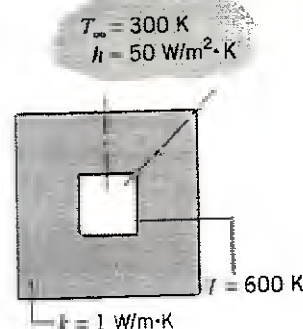

Figure 1.
- B.** The figure 1 shows a hollow square 2d-geometry. The internal surface is at a constant temperature and external surface is exposed to air cooling. Based on the given geometry and thermal conditions: [10] 3/3, 4